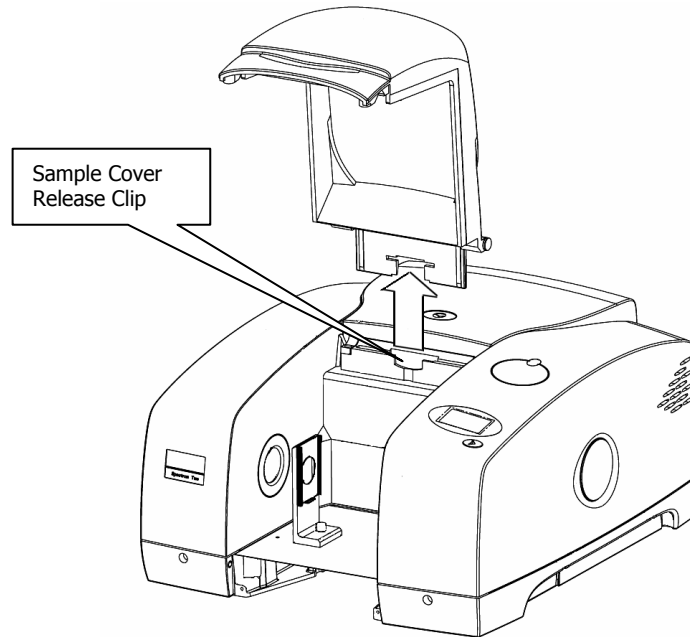

Figure 30 Removing the sample area cover
4. Remove the sample area cover, if fitted; open the cover, press on the cover retaining clip and pull the cover vertically to remove it (Figure 30).